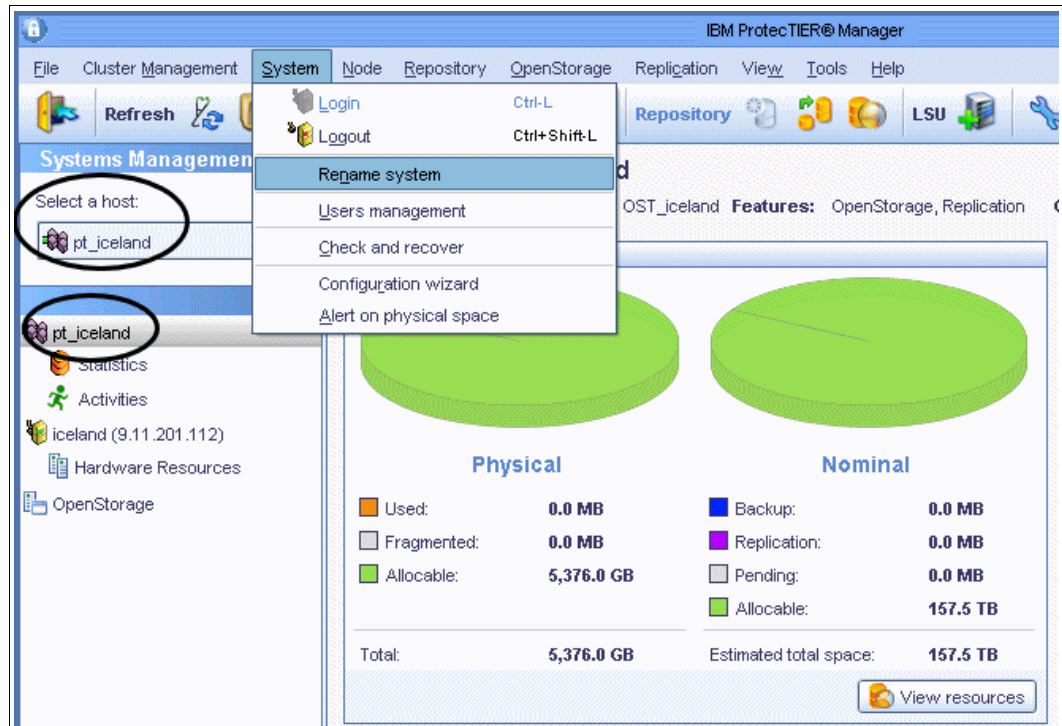

Figure 5-31 Rename system
1. In the **Systems Management** pane, select the host you want to rename (Figure 5-31).